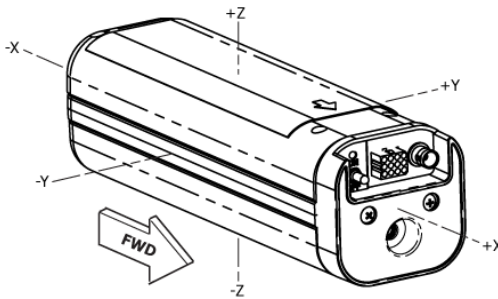

Figure 8 ELT Orthogonal Axes
NOTE: The fixed wing G-switch is triggered by approximately 2.3 Gs of deceleration (axis +X in Figure 8), whereas the five-axis G-switch is triggered by 12.5 Gs of deceleration (axes -X, -Y, +Y, -Z, and +Z in Figure 8), and requires a significant force to activate. The higher G-rating precludes inadvertent activation in helicopter applications but will allow for activation during a mishap.
- 13) Utilizing the sturdy padded surface, hold the ELT 10 inches (26.1 Centimeters) above the test area and thrust down forcefully maintaining a level axis into the pad to test the -X axis (see Figure 8).
- 14) Repeat step 2 for the -Y, +Y, -Z, and +Z axes (see Figure 8).